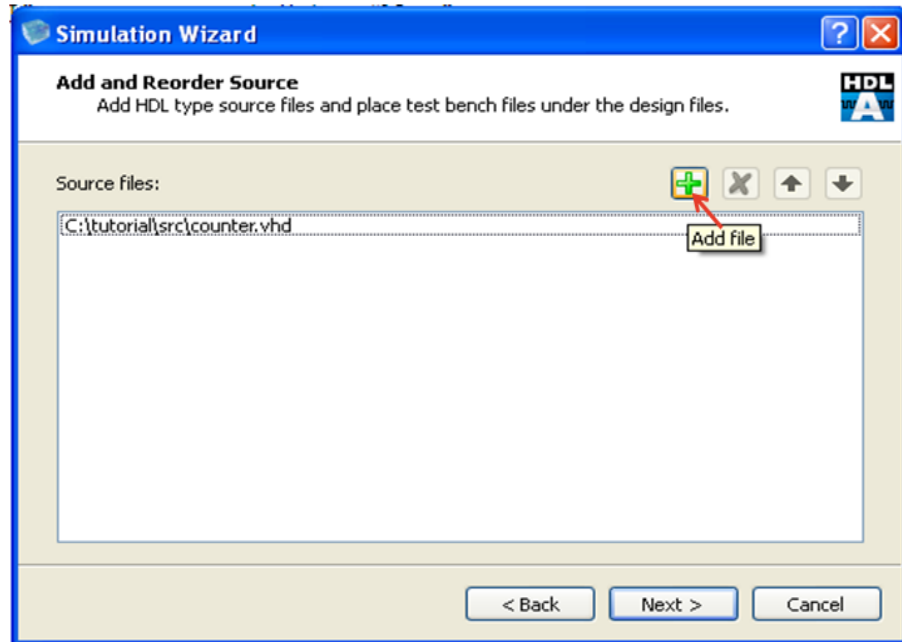

Figure 10-5 : Auto added RTL design Files
3. All the RTL design files in the iCECube2 project would be automatically added under the source files section as shown in Figure 10-5. Select “+” icon to add “**count_tb.vhd**” test bench file.